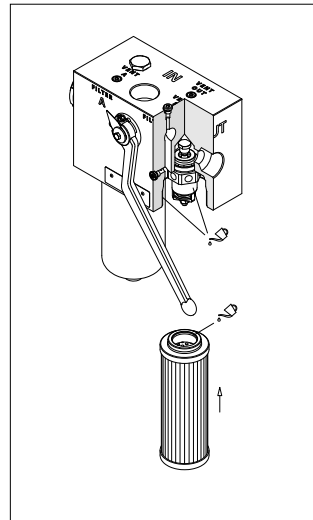

fig. 30
- (Fig. 30) Lubricate with the operating fluid the filter element O-ring, the housing tap and cavity, then fit the filter element on the tap.